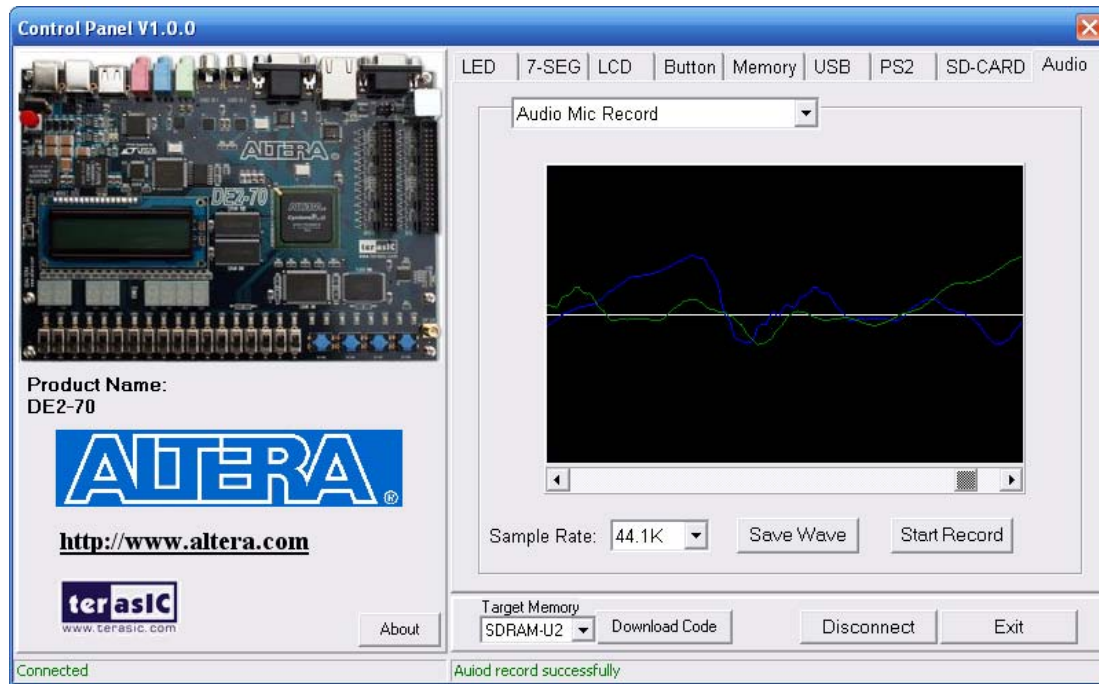

Figure 3.12. Audio Recording and Saving as a WAV file.
2. Select the “Record MIC” item in the com-box and select desired sampling rate, as shown in Figure 3.12.